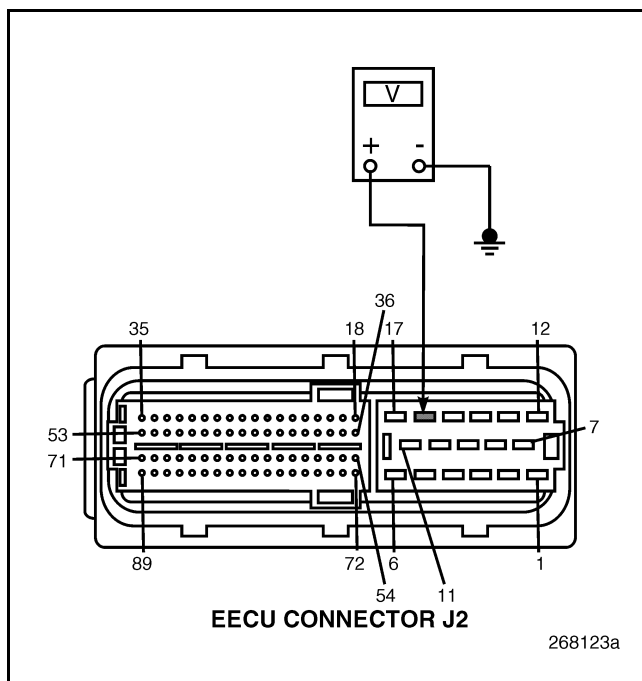

Figure 528
4. Measure the voltage between EECU connector J2 pin 16 and a good ground (see Figure 528).